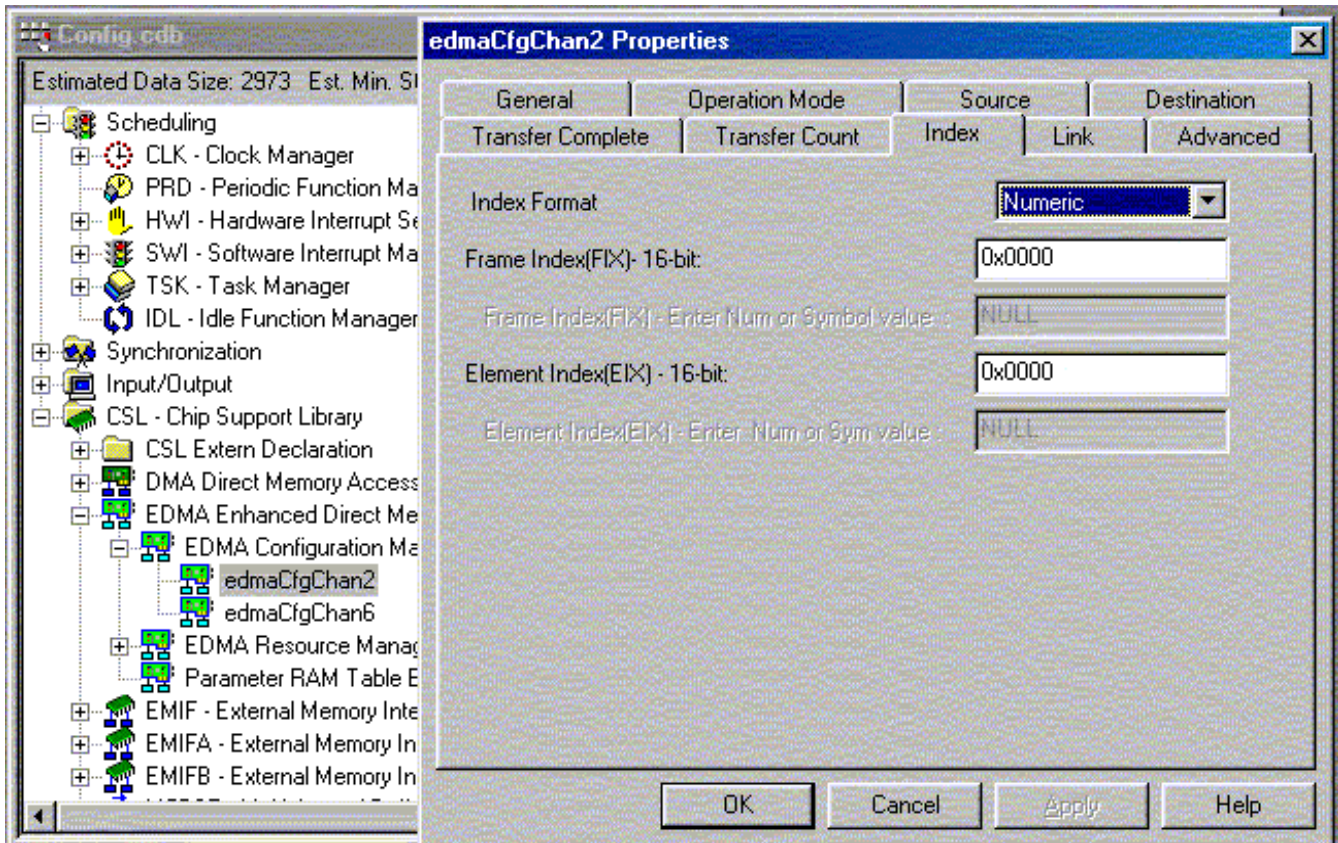

Figure 8. EDMA Chan2 Transfer Index Tab Options
7. In the Index and Link tabs, choose options shown in Figure 8 and Figure 9.